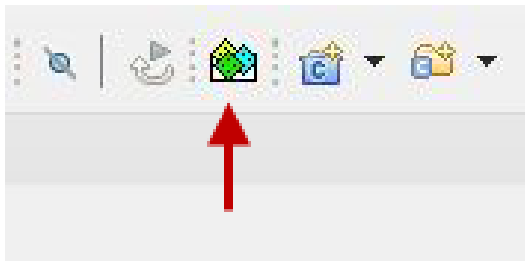

Figure 2. Opening the CMSIS-Pack Manager Perspective
3. On the top row of the Workbench perspective, click the “Make the CMSIS Packs Manager perspective visible” icon (see the figure “Opening the CMSIS-Pack Manager Perspective” (Figure 2)).